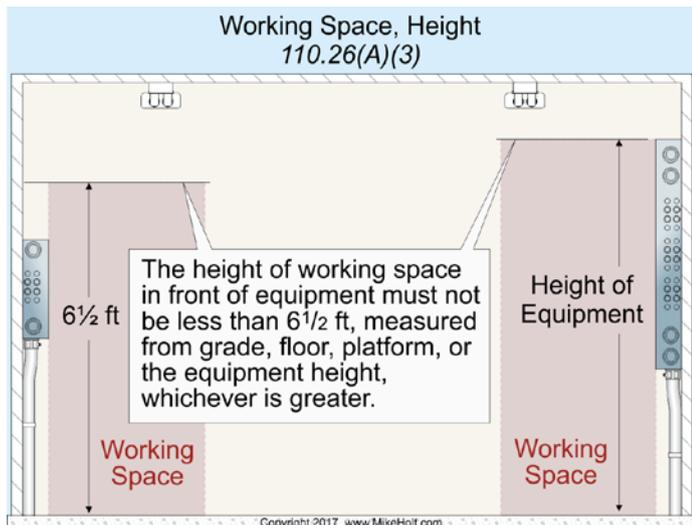

Figure 110-35
**(3) Height of Working Space (Headroom).** The height of the working space in front of equipment isn't permitted to be less than 6½ ft, measured from the grade, floor, platform, or the equipment height, whichever is greater. Figure 110-35